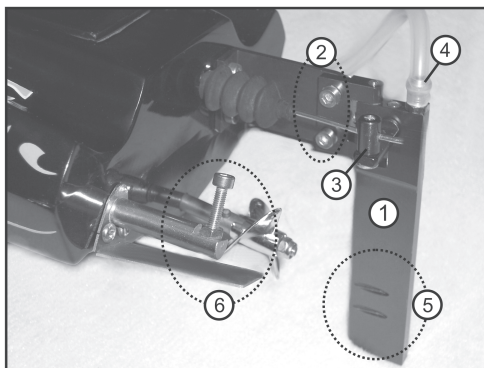

Figure 3
Figure 3 shows the rudder (1), the attachment screws of the rudder (2), the rod connection for the linkage rods (3), the connection of the water cooling (4) and the entry openings of the water cooling (5).
Check the linkage for tight fit and damage before any voyage. A damaged or loose linkage/attachment (e.g. loose screws, see figure 3, item 2 and 3) must be repaired before the voyage. If this is not observed, the linkage rods and/or rudder system may come loose unintended in operation. There is a danger of further damage to your model (e.g. the steering servo blocks). The model will also no longer be controllable.
Your model has two trimming flaps at the left and right of the tail (figure 3, item 6). These trimming flaps serve to optimise sliding of the model. Twisting of the set screws slightly adjusts the trimming flaps. After adjustment of the screws, they must be countered with the nuts and thus protected from independent loosening.
Alternatively, or if transmitter trimming is no longer sufficient, you need to readjust the linkage with the control wheel in the neutral position and neutral trimming by loosening the screws at the steering linkage (figure 3).
Check the water cooling function before any voyage. For this, you may use a small hose to blow air into the water cooling inlet (see figure 3, item 4). The air (or water in driving operation) must come out of the outlet installed at the side in the boat's body again.
Also observe the rudder slots (figure 3, item 5). These slots are the water inlet of the water cooling. For the water cooling system to work, it must be free of contamination at all times. The speed controller may otherwise overheat and be damaged. Loss of guarantee/warranty!